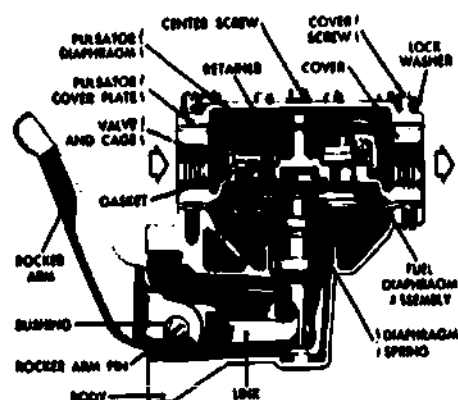

Fig 1-8. Nonpositive-type fuel pump.
- (1) **Positive type fuel pump.** The positive type will pump fuel continuously any time the engine is running. This type of pump must have some means of bypassing the fuel that the engine does not use. Vehicles with positive type pumps usually bypass excess fuel back to the fuel tank or to the inlet side of the fuel pump. When the pressure in the fuel pump to the carburetor line exceeds a set amount, the bypass valve will open and allow the excess fuel to return to the fuel pump.
- (2) **Nonpositive type fuel pump (fig 1-8).** The nonpositive type pump supplies fuel only when it is needed. Therefore, a fuel bypass is not needed with this type of pump. The fuel pump most widely used on wheeled-vehicle gasoline engines is the nonpositive diaphragm type. This type of pump is usually operated mechanically by the engine. The operating linkage of the pump consists of a rocker arm, a link, and a spring. A flexible, rubber-like diaphragm is hooked to the link by a rod. The diaphragm is clamped at its outer edges by the two halves of the pump body. The pumping chamber is the area between the diaphragm and valve assemblies.